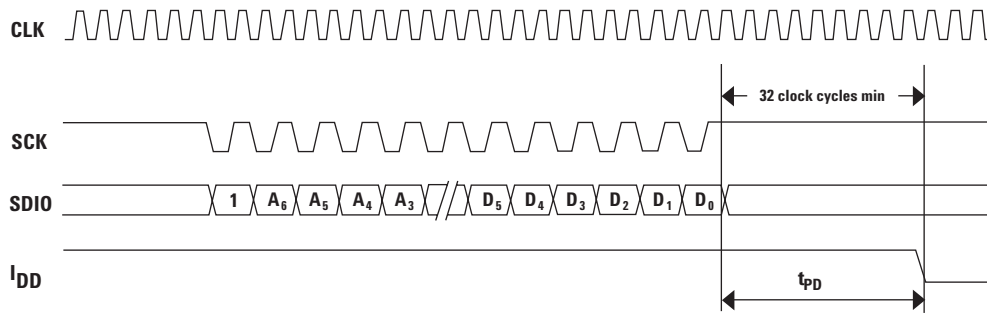

Figure 12. Power-down timing.
| Power Down (PD) | t_{PD} | 1.33 | | | μs | 32 clock cycle minimum after setting bit 6 in the Configuration register.(refer to Figure 12) |